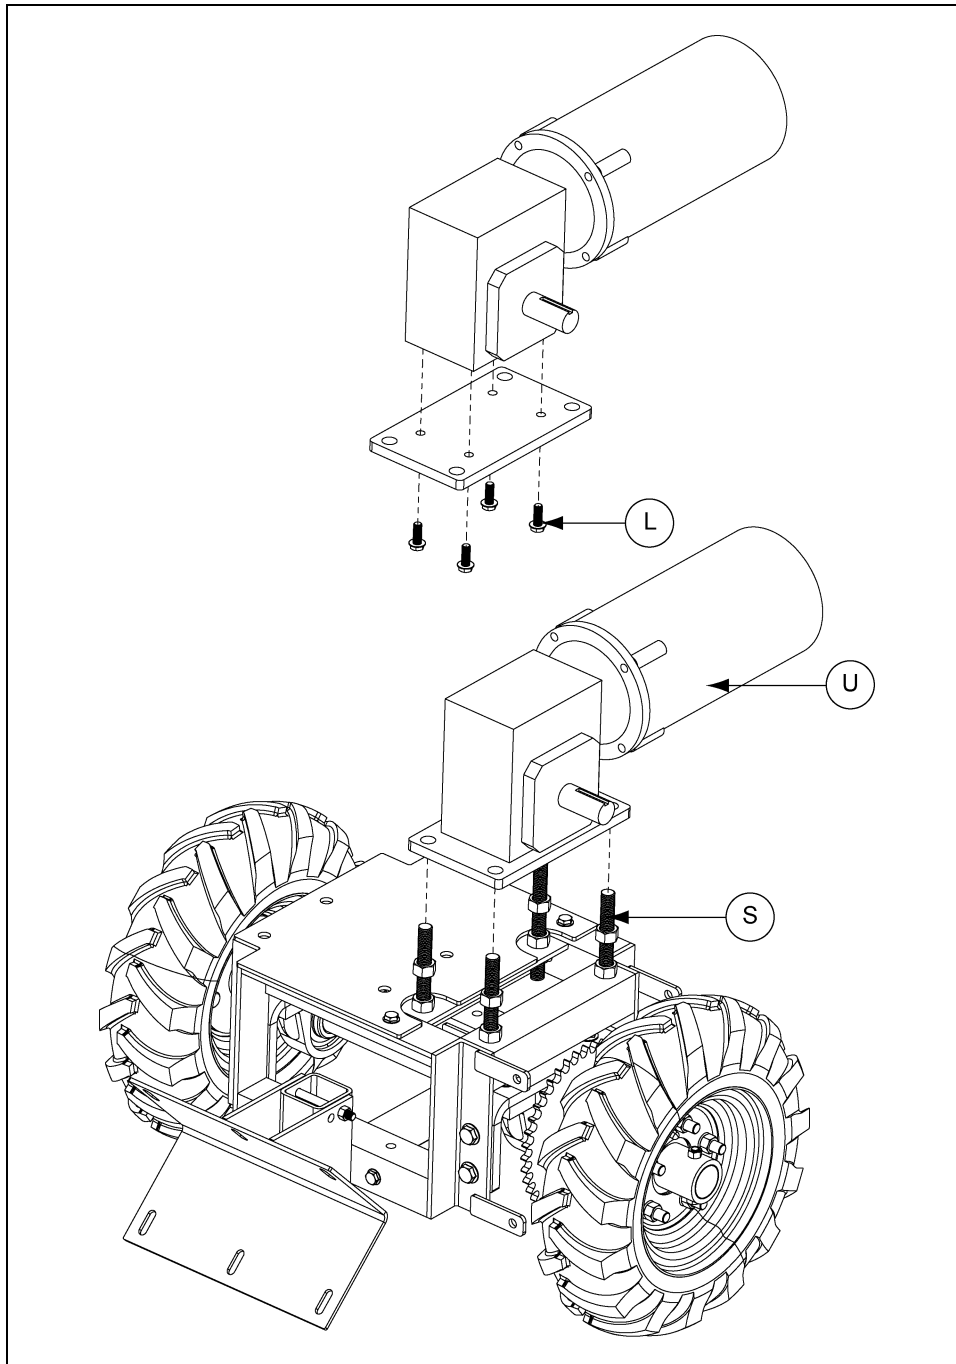

Figure 4G
13. Mount the drive assembly to the gearbox plate using four (4) 3/8"-16 x 1" flange bolts (L). Place the gearbox plate and motor assembly (U) over the threaded rods (S), resting on the hex nuts. (See Figure 4G.)